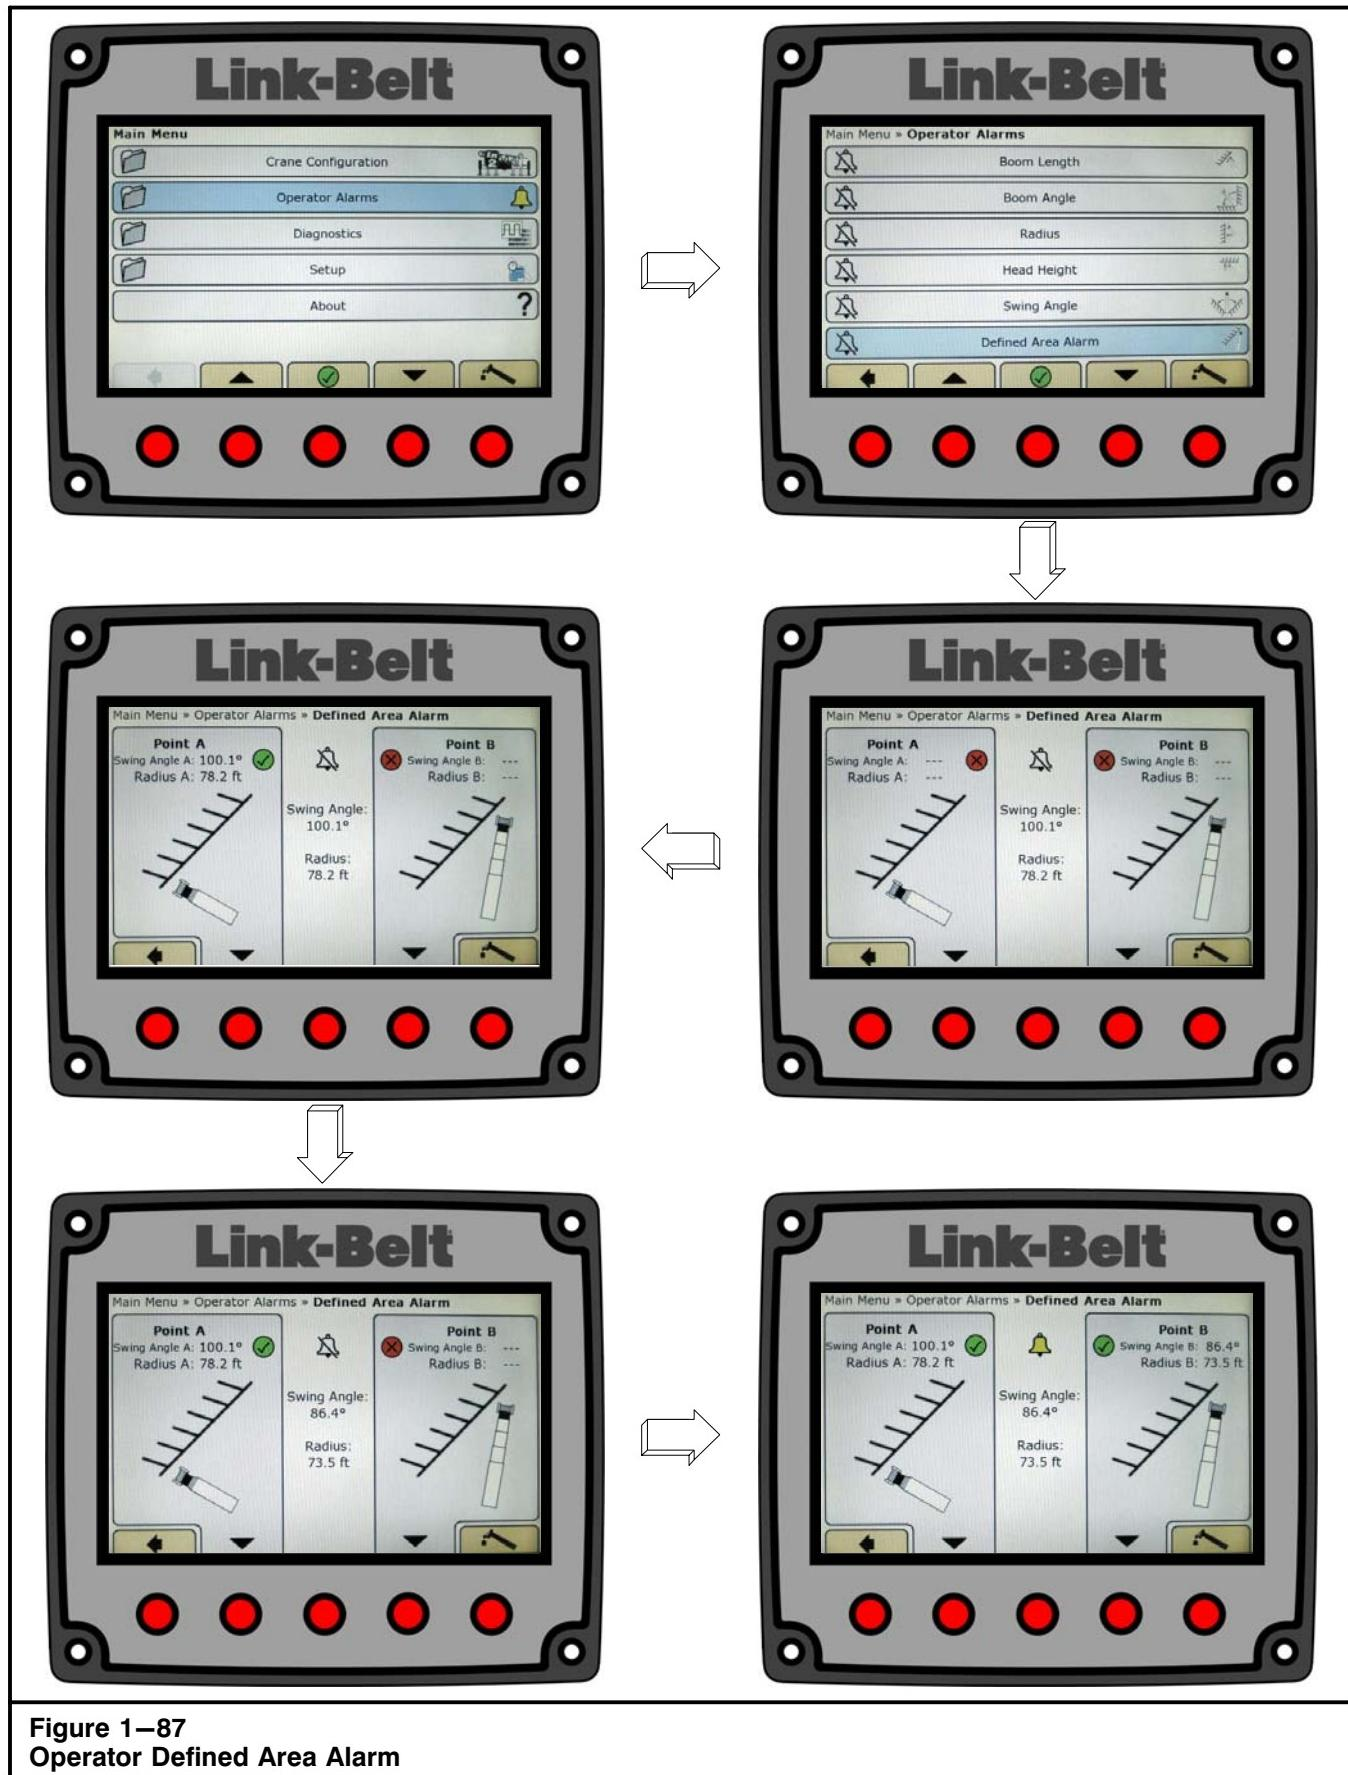

Figure 1–87
The operator defined area alarm, when set, will define an imaginary vertical plane between two set points to optimize the working area. When approaching the plane, the audio alarm will sound intermittently, and the message "Approaching Defined Area" will appear in the warning message area. When passing the plane, the audio alarm will sound continuously and the message "Defined Area" will appear on the warning message area. Use the following procedure, Figure 1–87, and Figure 1–88 to set the operator defined area alarm.
- From the normal working screen, press the Main Menu button . Refer to Figure 1–81.